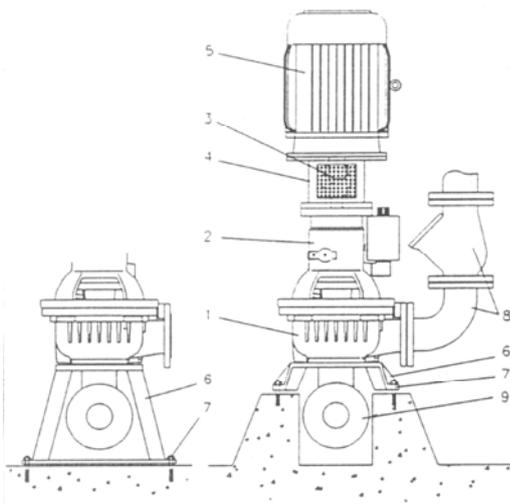

Fig. 7.4
Like fig.7.4
- fixation of the base plate to the floor, see fig.7.4 pos. 7.